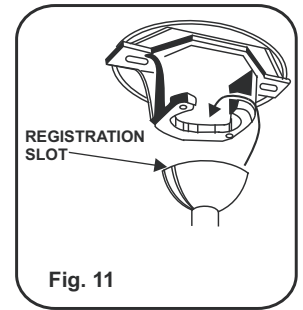

Fig. 11
Step 6. Now lift motor assembly into position and place hanger ball into hanger bracket. Rotate until the check groove has dropped into the registration slot and seats firmly.(Fig 11) Rod should not rotate if this is done correctly.